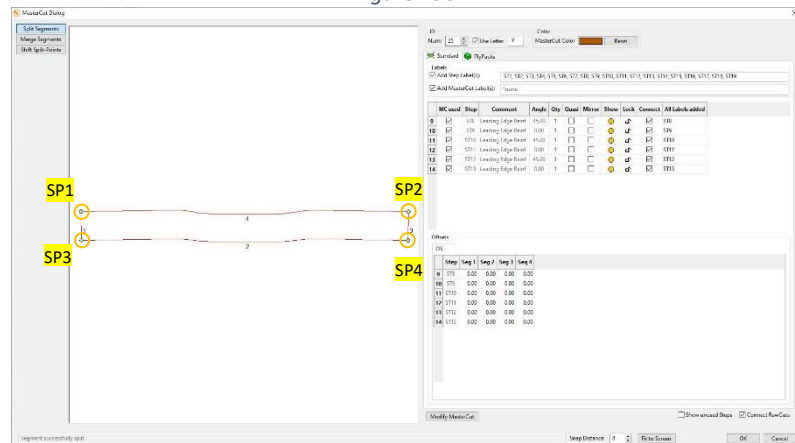

Figure 294
90. ... and for MasterCut Y and split the outer geometry as shown in Figure 294...